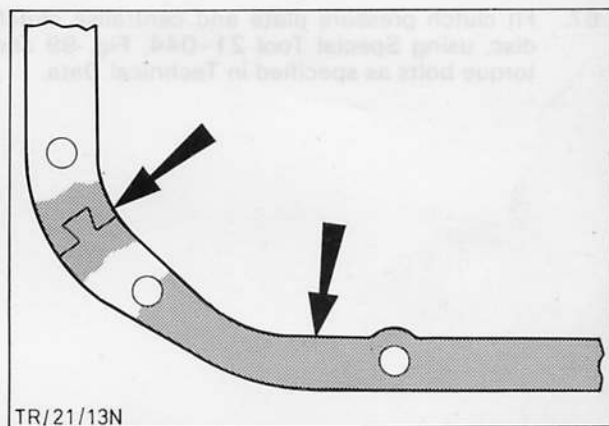

Fig. 86. Apply sealing compound to sump gasket
65. Position sump gasket, applying sealer to joints and gasket around joints, Fig. 86. Locate oil sump and torque bolts as specified in Technical Data.